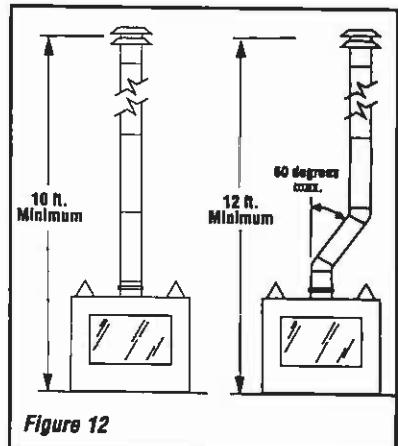

Figure 12
**B -** Slip an 8" (203 mm) B-Vent system over the B-Vent connector and secure with four sheetmetal screws (# 8 or larger), and install the remainder of the B-Vent to the outside. Minimum overall height of the vent system and appliance must be 10' (2.54 m) vertical (no offset) or 12' (3.7 m) when an offset up to 60 degrees from the vertical is used. (*Figure 12*).